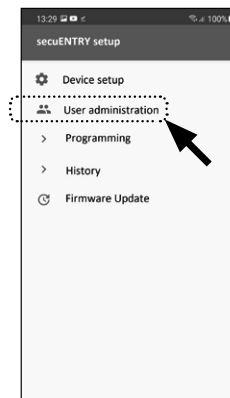

Fig. 29
- ③ Tap on "User administration" in the submenu (Fig. 29).